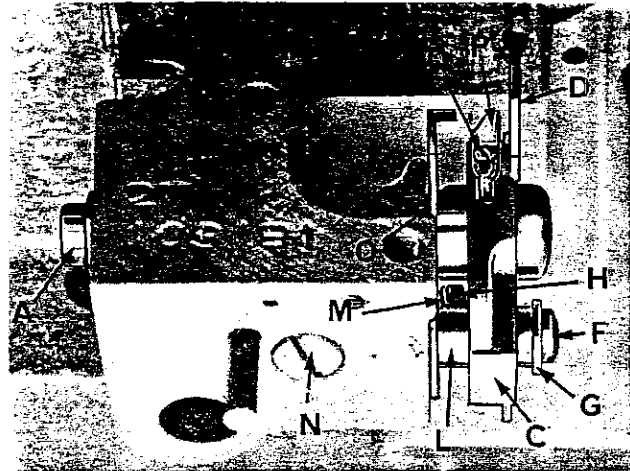

fig.11
7. Mounting lower trimmer knife (fig. 11)